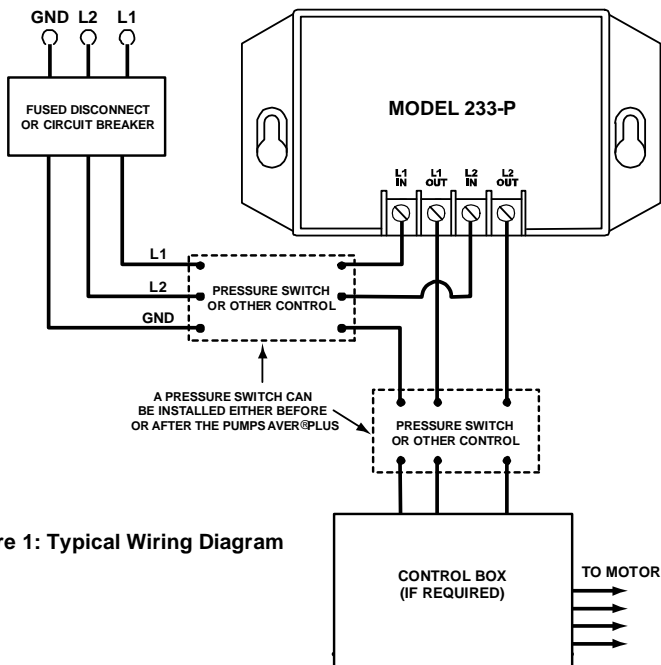

Figure 1: Typical Wiring Diagram
3. Connect the other line from the fused disconnect to the Model 233-P's **L2 IN** terminal. Run a wire from the **L2 OUT** terminal to the other in-line controls such as pressure or float switches (see Figure 1).
- Typical wiring diagram – Figure 1